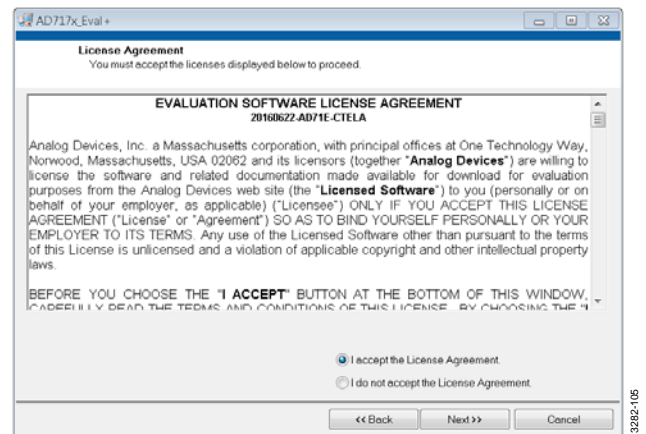

Figure 5. Accepting the License Agreement
5. A license agreement appears. Read the agreement, select **I accept the License Agreement**, and click **Next>>** (see Figure 5).